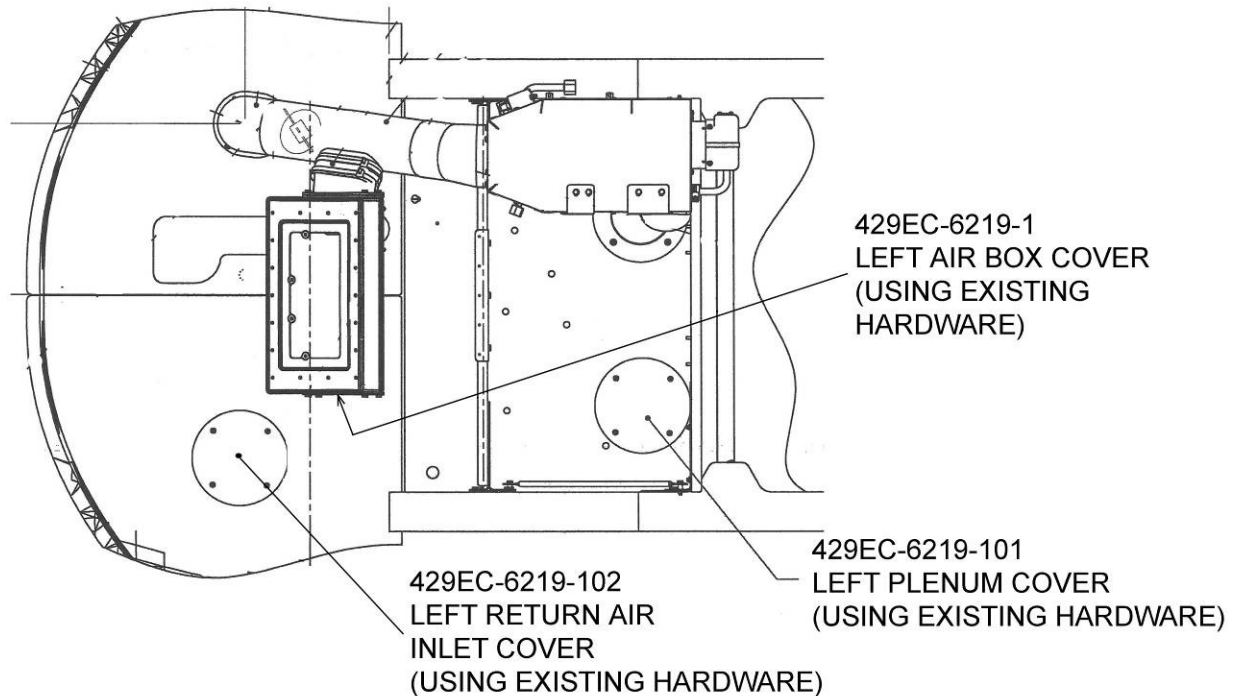

Figure 13: Single Aft Evaporator Air Distribution
1. Install 429EC-6219-1 Left Air Box Cover using existing hardware, see Figure 13.
2. Install 429EC-6219-101 Left Plenum Cover using existing hardware, see Figure 13.
3. Install 429EC-6219-102 Left Return Air Inlet Cover using existing hardware, see Figure 13.